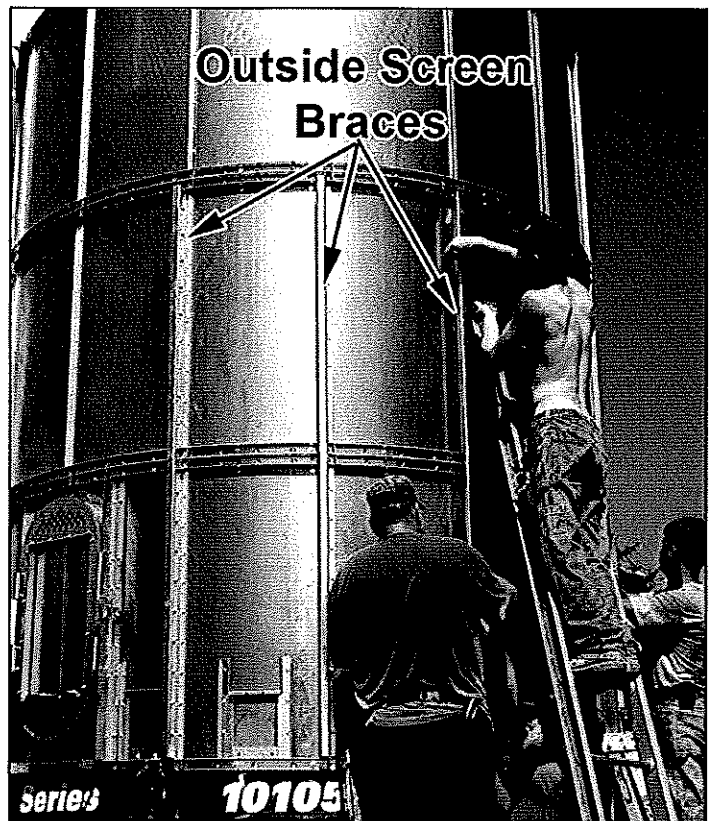

Figure 5
- For models 101050 or 101275, set screen sections #2 and #3 (which contain fans and heat floor) on top of base screen section. Install outer screen section supports to the outside screen braces. This must be done before tacking additional sections. See Figure 5.